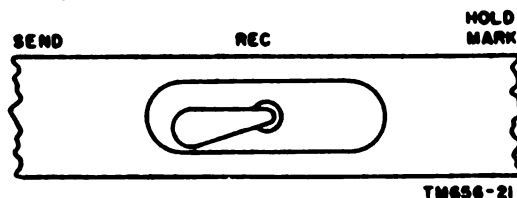

Figure 10. SEND-REC-MARK HOLD switch.
21. SEND-REC-MARK HOLD Switch (fig. 10)